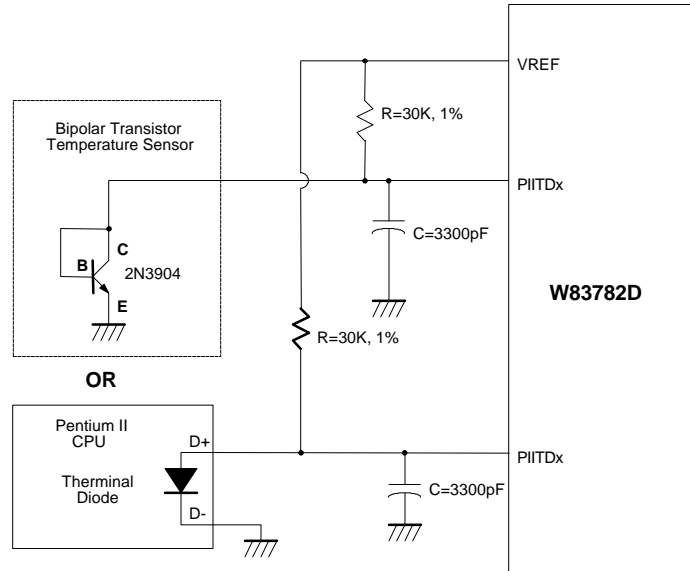

Figure 12.
The W83782D can alternate the thermistor to Pentium II™ (Deschutes) thermal diode interface or transistor 2N3904 and the circuit connection is shown as Figure 12. The pin of Pentium II™ D- is connected to power supply ground (GND) and the pin D+ is connected to pin PIITDx in the W83782D. The resistor $R=30K$ ohms should be connected to $VREF$ to supply the diode bias current and the bypass capacitor $C=3300pF$ should be added to filter the high frequency noise. The transistor 2N3904 should be connected to a form with a diode, that is, the Base (B) and Collector (C) in the 2N3904 should be tied together to act as a thermal diode.